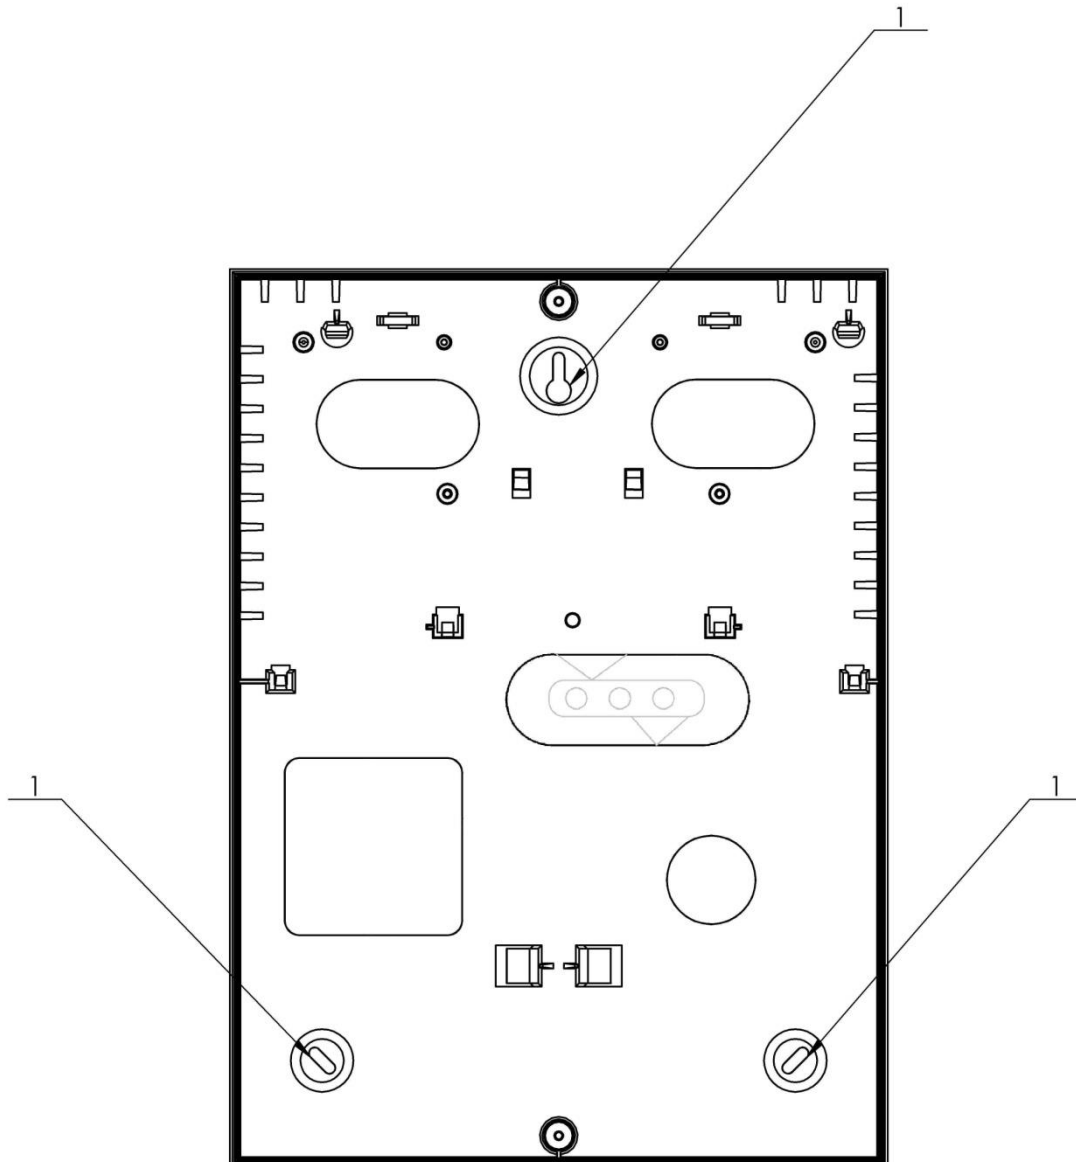

Fig.8
Put the panel's cabinet on the wall and mark the positions for the dowels (fig.8, pos.1).
- Take the signal and power lines through the dedicated openings (refer p.14.1.2) and mount the screws (fig.8 pos.1) and fix cabinet on the wall.